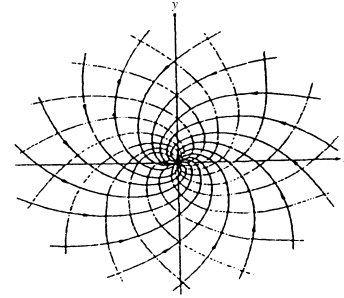

Fig. 4.14
**Solution:** If this problem is given *early* enough (before Section 4.10 of the text), the students will discover this pattern for themselves. It is a line source plus a line vortex, a tornado-like flow, Eq. (4.134) and Fig. 4.14 of the text. Find the velocity potential: